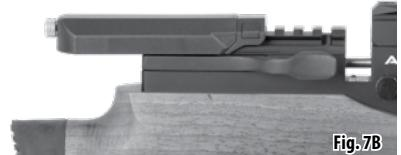

Fig. 7B
2. Slide the cheek piece back to your desired position (Fig. 7B).